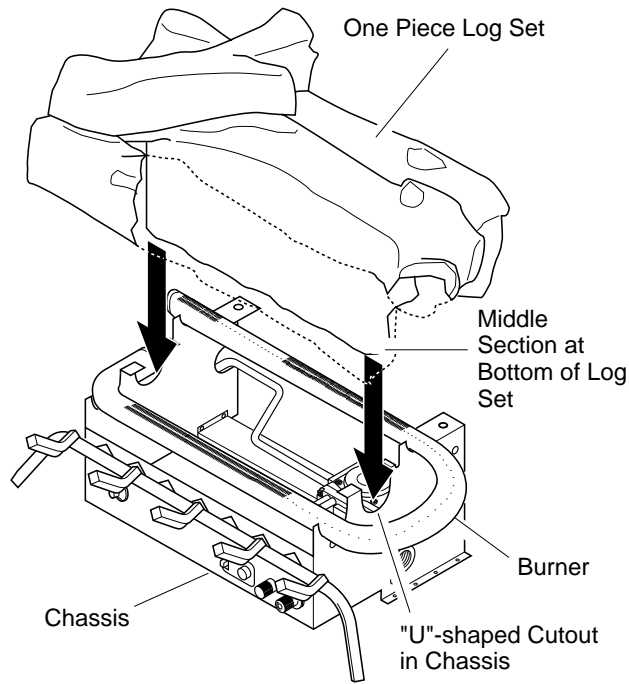

Figure 17 - Installing Golden Oak One-Piece Log Set
1. Place one-piece log set on grate to fit as illustrated in Figure 17. Make sure middle section at bottom of log set is seated into "U"-shaped cutout in center of chassis (see Figure 17). **Note:** 36" model has more features but fits on the chassis the same. Log will fit securely on chassis. **IMPORTANT:** Make sure log does not cover any burner ports.